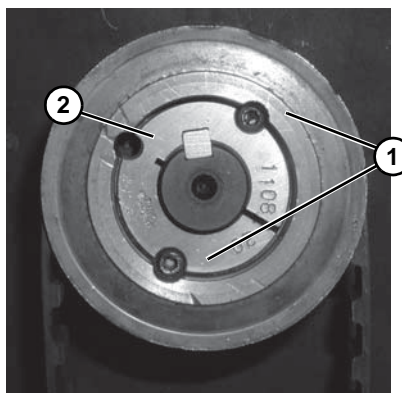

Figure 17
3. Loosen taper-lock screws (**Figure 17, item 1**) and remove drive pulley: Insert one (1) of taper lock screws in remaining hole (**Figure 17, item 2**). Tighten screw until pulley is loose.